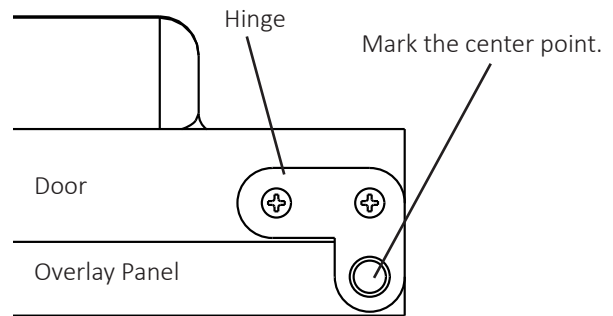

Fig. 12
- 10) Mark the centerpoint of the hinge (C1) and hinge (C2) holes that extend over the overlay panel (See Fig. 12).